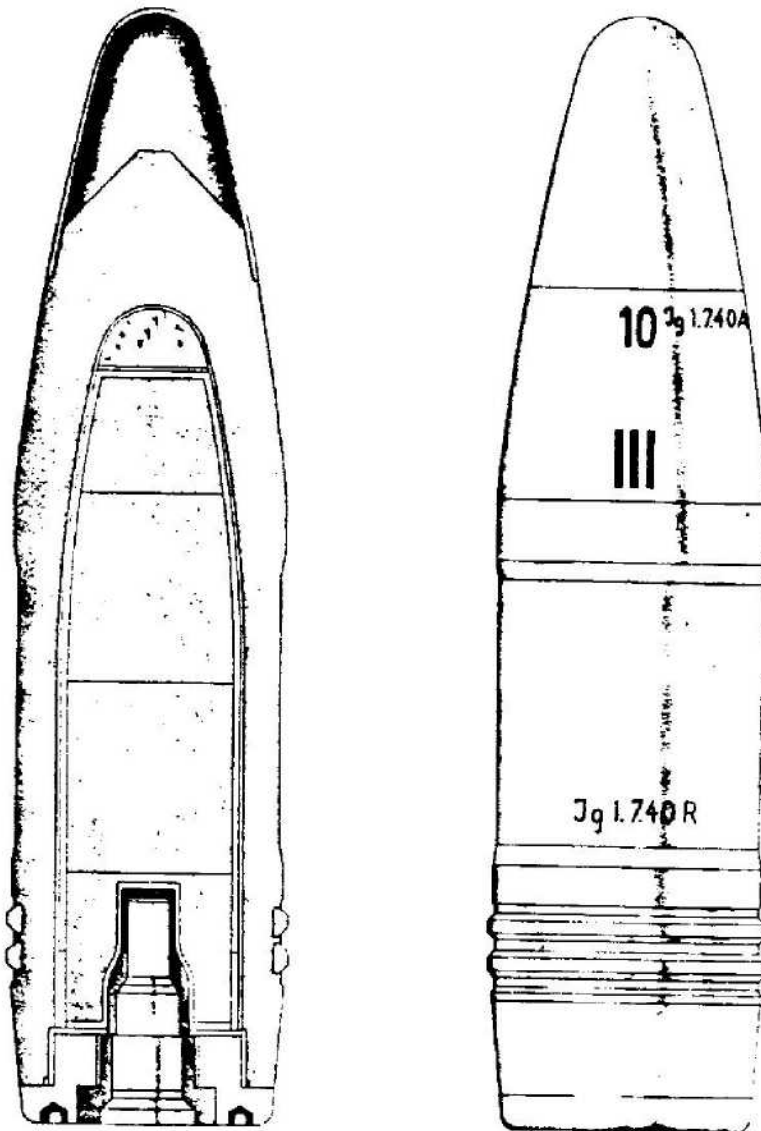

Figure 512—Anticoncrete Projectile, Type 19, 150-mm, 15-cm Gr. 19 Be.
**GERMAN NOMENCLATURE**: 15-cm Gr. 19 Be (Granate 19 Beton). (See fig. 512.)